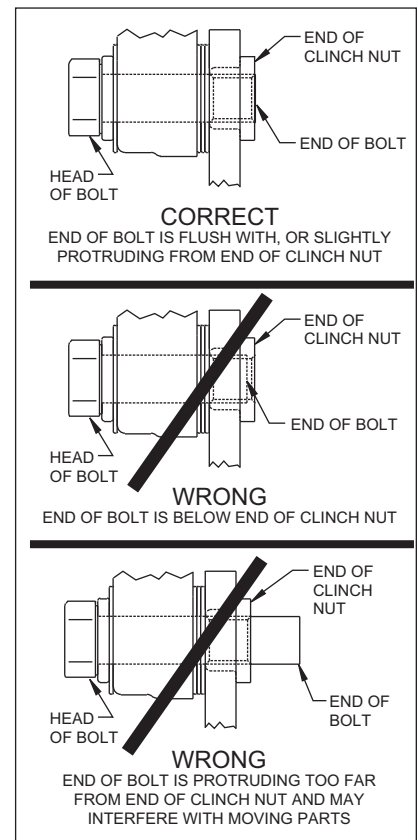

Figure 4.
•**NOTE:** Please reference the caution statement at the beginning of the assembly instructions. Mount the caliper (9) onto the caliper mounting bracket (1) using two bolts (10) and two washers (11). View the rotor (5) through the top of the caliper (9). The rotor (5) should be aligned in the center of the caliper (9). If not, loosen the two bolts (10) and adjust the caliper (9) by using 0.035 inch thick shim washers (12). The shim washers (12) should be placed between the caliper (9) and the caliper mounting bracket (1). Finger tighten and recheck alignment. Add as many shim washers (12) as necessary to achieve the correct alignment. **NOTE:** The end of the bolt must be flush with or slightly protruding from the head of the clinch nut. See Figure 4. Place spare shims (12) between washer and caliper mounting ear to achieve the proper mounting fastener configuration. Always use the same amount of shims on both the top and bottom caliper mounting bolts (10). Loosen the two bolts (10) and apply red *Loctite*® 271 to bolt threads (10) and torque to 40 ft-lb. Safety wire the two bolts (10).
•Install the disc brake pads (13) and secure using cotter pin (14). Repeat this procedure for the other wheel.